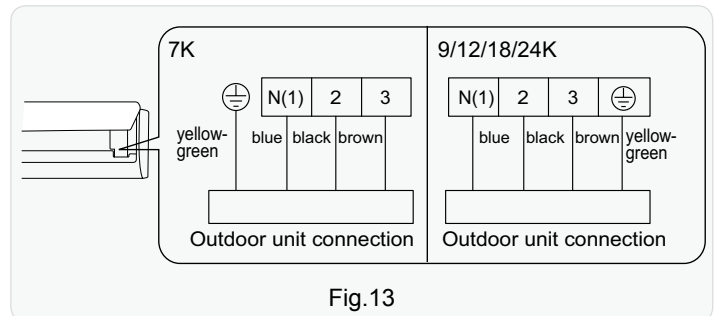

Fig.13
- (3) Remove the wire clip; connect the power connection wire signal control wire (only for cooling and heating unit) to the wiring terminal according to the color; tighten the screw and then fix the power connection wire with wire clip.(As show in Fig.13)